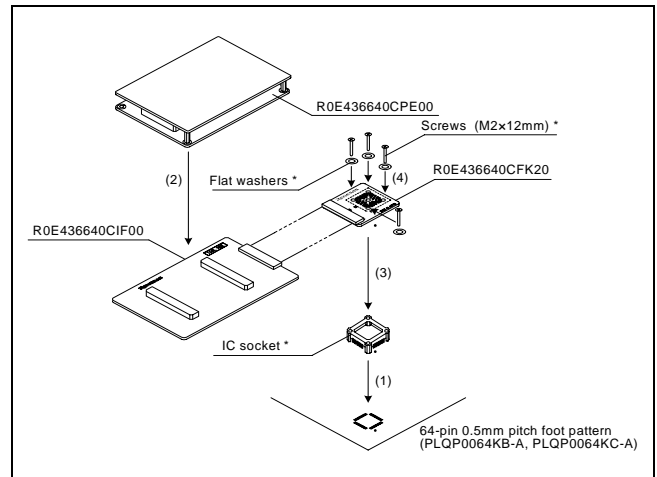

Figure 3 Connection procedure of the R0E436640CFK20
5. Connection Procedure (See Figure 3)